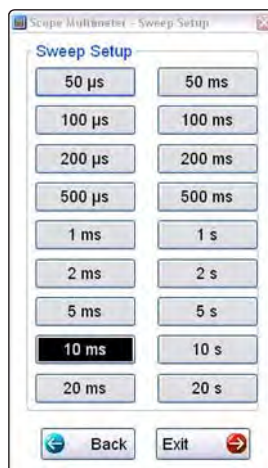

Figure 8-15 Sample Sweep Setup dialog box
2. Select **Sweep** icon to open the sweep dialog box (Figure 8-15)